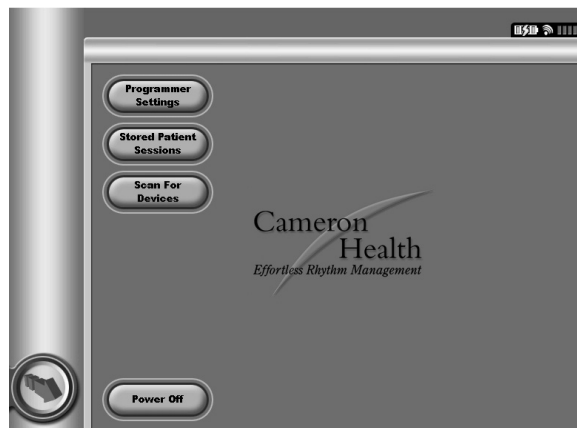

Figure 16: *The Scan for Devices button is on the Startup screen*
1. Select the Scan For Devices button on the Startup Screen (Figure 16). The Device List screen appears after the Scan Progress Bar displayed during the scanning process. Select the Cancel button at any time to end the scanning process.